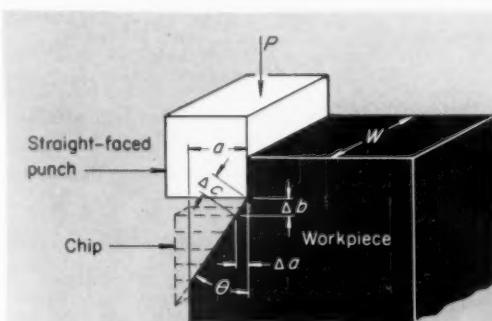

Fig. 1. Single chip formation with cutter of zero rake.
The single static arrangement illustrated in Fig. 1 may be helpful in establishing certain basic relationships which must be considered in any machining operation. These are: (1) Cutting force and horsepower at the cutting edge of the tool in relation to shear strength and shear angle of the workpiece; and (2) the relationship between the shear angle and
Formation of a single chip is illustrated in Fig. 1. This chip is produced by a straight-faced punch, i.e., a cutter having a zero rake angle. A strip of thickness a and width (depth) w of the workpiece is exposed to an increasing thrust load by the straight-faced punch. If the increasing thrust load reaches a certain value P (called cutting force) a chip is separated from the workpiece along a shear surface inclined to the axis of the punch under an angle θ , called the shear angle.